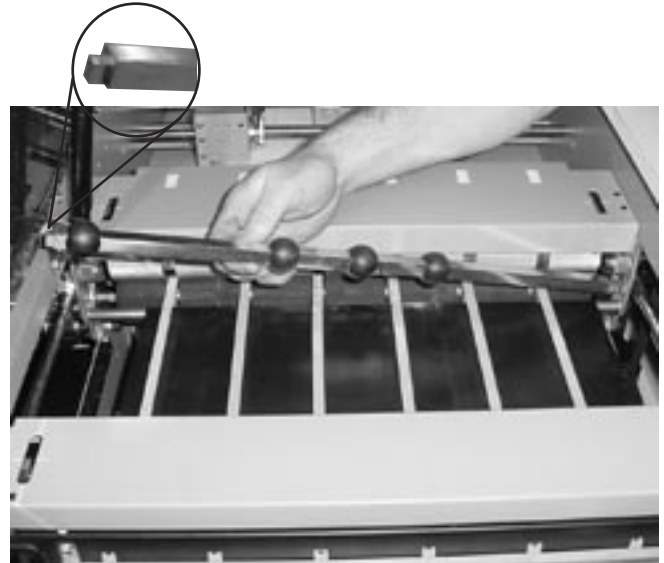

Fig 31
13. The tear bar is adjustable to accommodate characteristics of various forms. To adjust height bar must be pushed to compress spring and lift out. Rotate 180 degrees (turned over) and replaced making sure that square end of bar locks into brackets. (Fig. 31, shown in HIGH position)